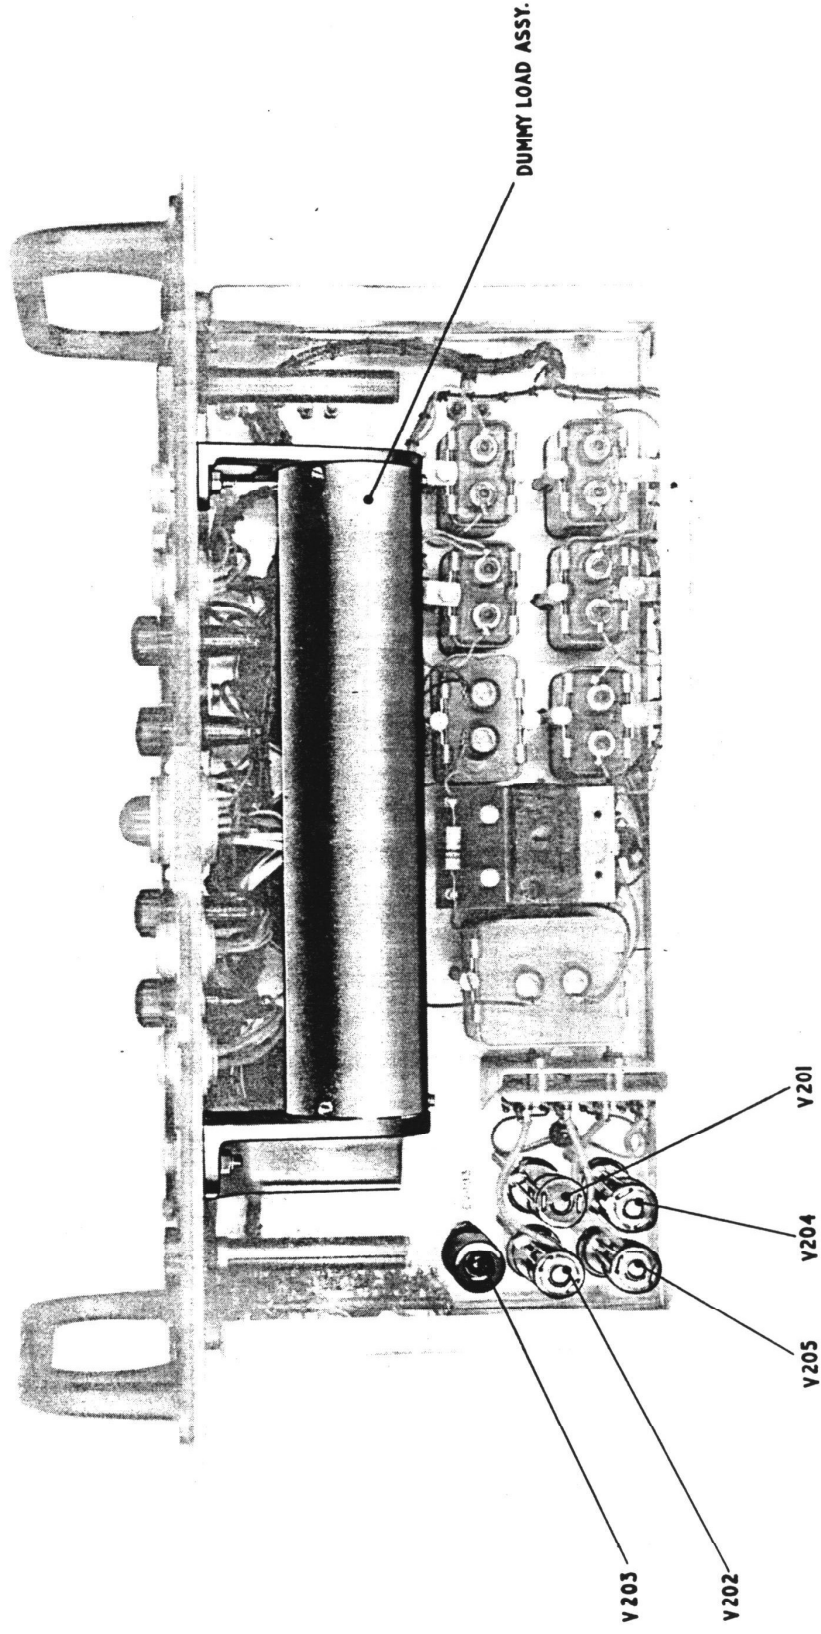

FIG. 22 S.U.R. 22
- (1) Before opening the SUR No. 22, check that the fuses are not responsible for the failure, and that all the connectors are in position, with the locking rings firmly tightened by hand.
- (2) Also bear in mind the fact that the mains input to the SUR No. 22 is inter-locked with the supply to the fans in both Transmitter and SUR No. 22, so that if one of the wires inside the appropriate connector is defective, the fans may be operative but not the set. The connectors can be checked for continuity (after removal from both units) using the low ohms range of the Avometer. The connector should be gently flexed near the plugs while testing, in case of intermittent contact.
- (3) If the fault persists, switch off the power, undo and remove the six white painted nuts around the edge of the front panel, disconnect the mains and fan connectors, and withdraw the equipment and inner case from the outer case. Remove the remaining sixteen nuts around the front panel and withdraw the front panel from the inner case.
- (4) Reconnect the mains and fan connectors and switch on the power.
- (5) Check the voltages at the spigots on the back of the 25-way output socket. Any marked variation from the figures shown should provide a lead to the faulty circuit, and again, the valves associated with the circuit are the first objects of suspicion.
- (6) Of the five valves grouped in one corner of the chassis, the smaller one is the 40V negative bias rectifier, (CV493 V203), the other four connected two two's in parallel for full-wave rectification, are CV 2235, V204, V202, V204, and V205. It should be noted that if one of these valves is changed, the valve connected in parallel with it should also be changed, or at least tested, in case it has been seriously overloaded.
- (7) The DUMMY AERIAL can be checked using the low ohms range of the Avometer. Its DC resistance should be 75 ohms.
- (8) Fig. 22 shows the positions of the valves.